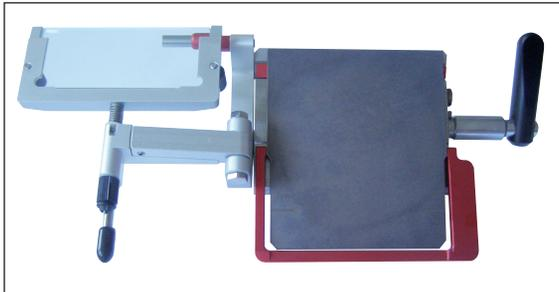

Fig. 61
- Move the anti-roll guide to the side (see Fig. 61).